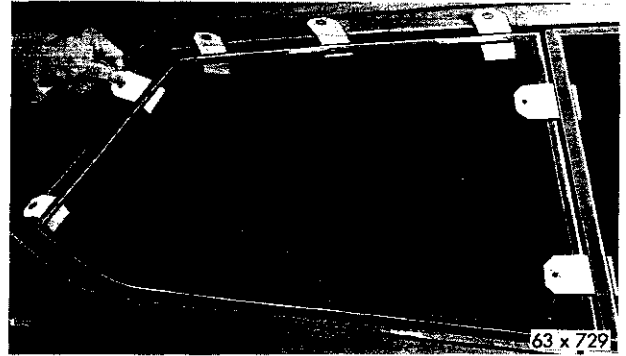

Fig. 10—Testing Glass to Weatherstrip Seal
(4) The striker plate is properly positioned when the door has a very slight lift as it is closed.
(5) This also prevents door noise when the vehicle is in motion.
(6) If proper adjustment cannot be obtained, the use of shims between the latch plate and pillar should be used. The shims are available in  $\frac{1}{32}$  and  $\frac{1}{16}$  inch thickness. (The shims are used to bring the latch plate closer to the door for full engagement.)
(7) The door weatherstrip seal may be tested by holding a heavy piece of paper (similar to a shipping tag) against the lock pillar and then closing the door.
(8) A slight drag should be felt as the paper is being pulled out (Refer to Fig. 10).
(9) If no drag is felt, move the striker plate in closer.
(10) This paper test should be made all around the door at approximately six-inch intervals.
(11) If no drag is felt on the paper, make the necessary adjustments to either or both hinge pockets or striker plate.